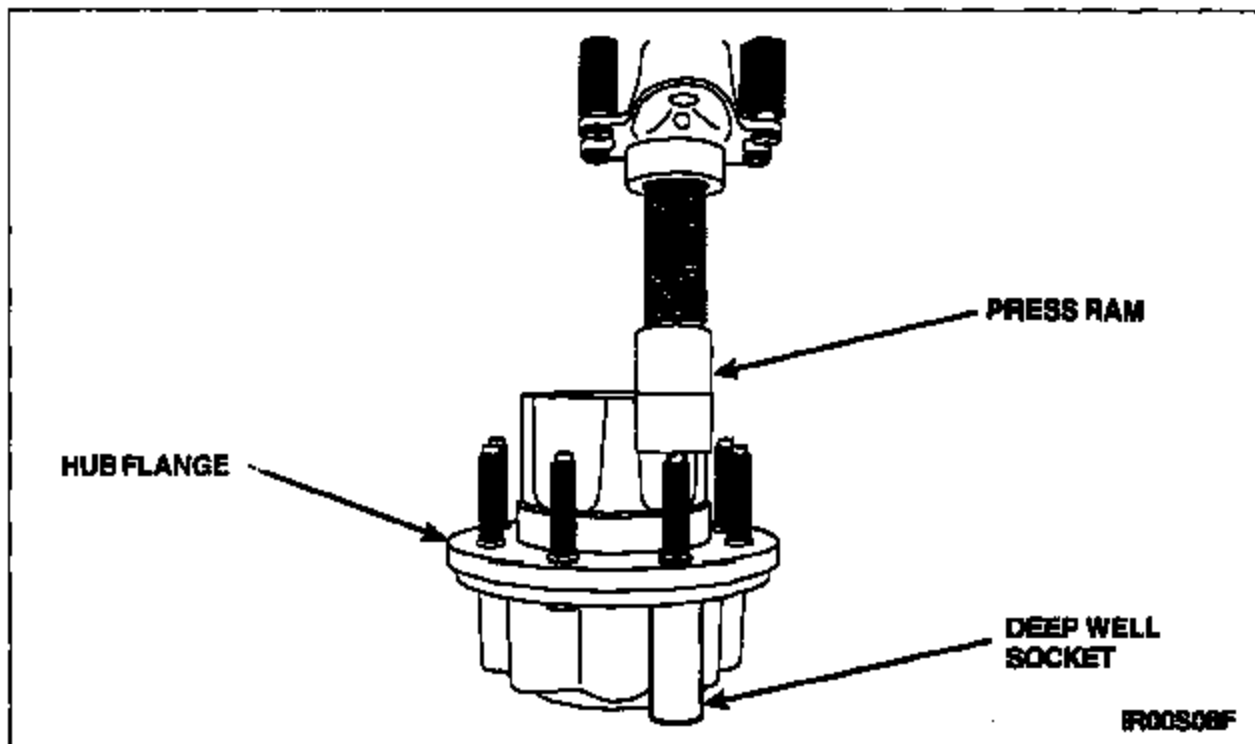

FIGURE 6
9. Remove the wheel studs from the hub as follows. See Figure 6.